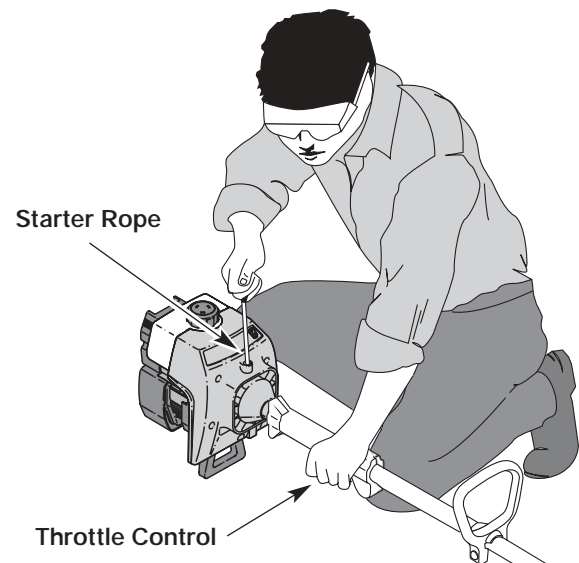

Fig. 8
**WARNING:** Avoid accidental starting. Make sure you are in the starting position when pulling the starter rope (Fig. 8). To avoid serious injury, the operator and unit must be in a stable position while starting.
5. With the unit in the starting position (Fig. 8), squeeze the throttle control to the wide open (full throttle) position. Pull the starter rope briskly 5 times while still in the **FULL** choke (**A** |←|) position. If the engine attempts to run before the fifth pull, proceed to step 6.
7. Pull starter rope briskly 1 to 3 times to start the engine (Fig. 8).
1. Release your hand from the throttle control (Fig. 8). Allow the engine to cool down by idling.